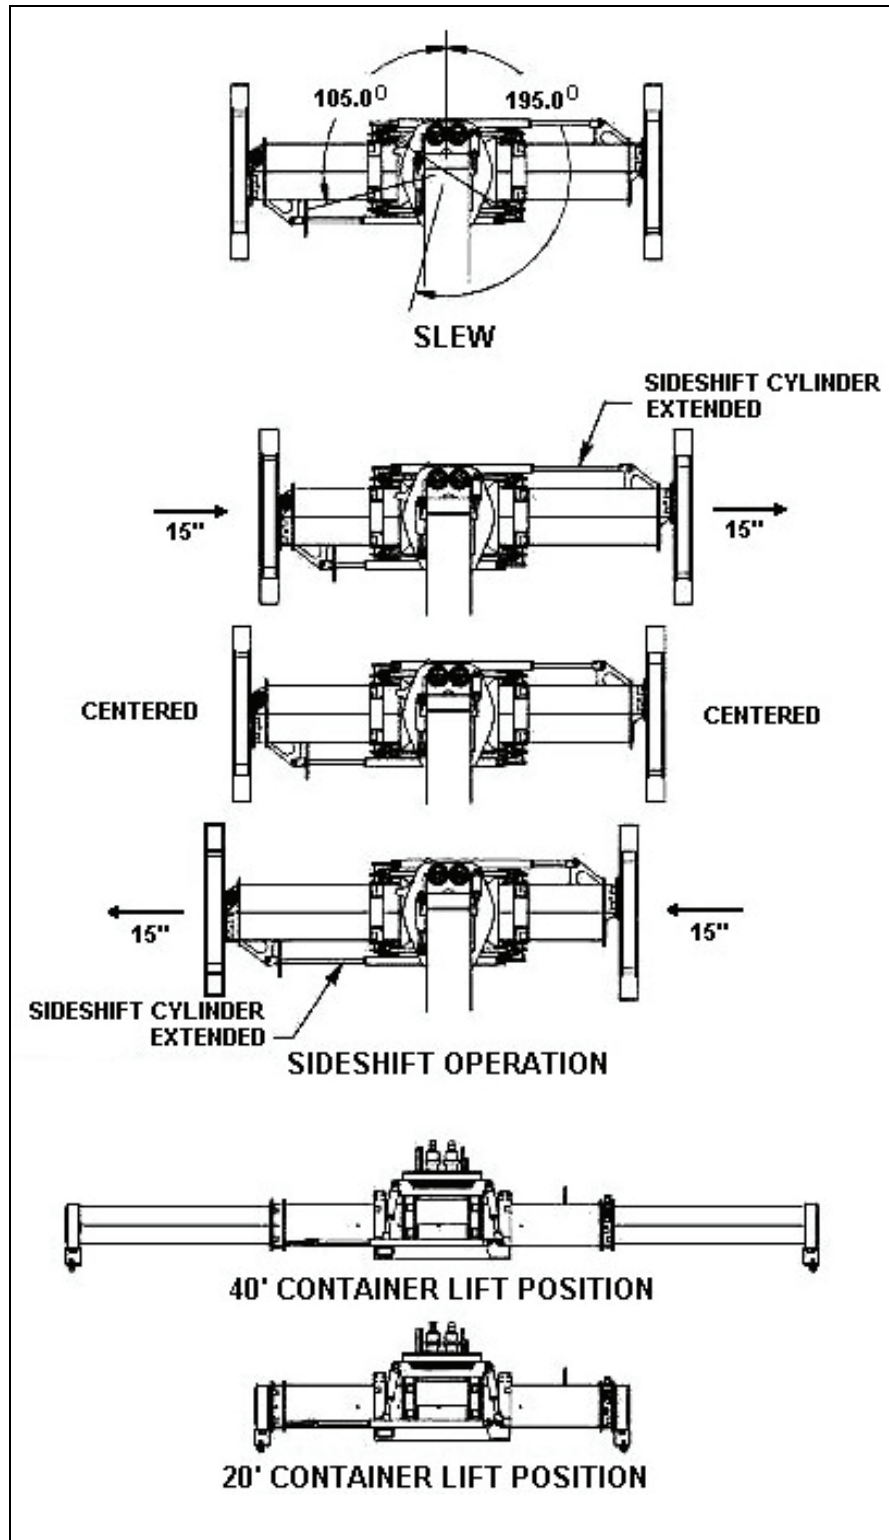

Figure 3-55. Tophandler and Forklift Sides Shift Button
- (1) Press left side of rocker switch to rotate load clockwise.
- (2) Press right side of rocker switch to rotate load counterclockwise.
- d. Use tophandler and forklift sides shift button (see Figure 3-55).
- (1) Press right button to shift load to the right.
- (2) Press left button to shift load to the left.
- (3) Press right button and multiple functions trigger button to widen tophandler from 20 to 40 feet or to open forklift tines, if forklift kit is installed.
- (4) Press left button and multiple function trigger button to widen tophandler from 20 to 40 feet or to close forklift tines, if forklift kit is installed.